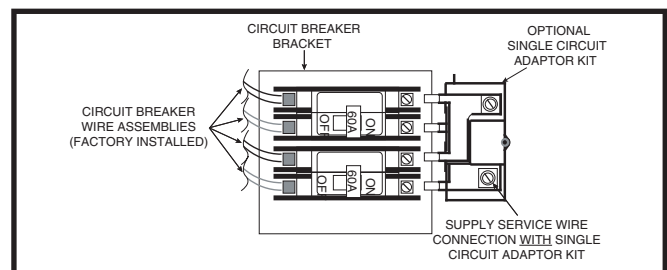
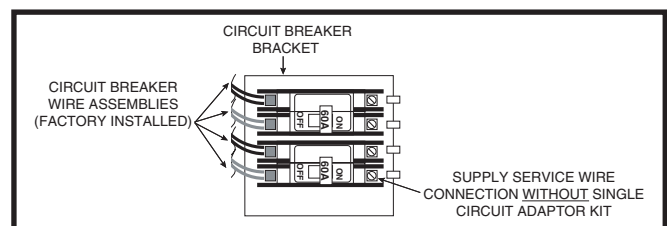

Figure 14. Optional Single Circuit Adaptor Kit
Figure 15. Installation of Supply Service Wires
- -012 models are factory-wired for single-branch supply circuit (single-circuit kit factory installed). Dual-branch circuit can be used by removing factory-installed single-circuit kit. See Figure 14 \(page 10\).
4. Insert supply service wire(s) through cable connector(s) and connect wires to circuit breakers (Figure 14 & Figure 15). **NOTE:** To install single-circuit kit, perform step 5. If single-circuit kit installation is not needed, go to step 6. A spacer has been provided that must be installed as a reinforcement where the whip/conduit enters the unit. Break this spacer in half and use the appropriate size.